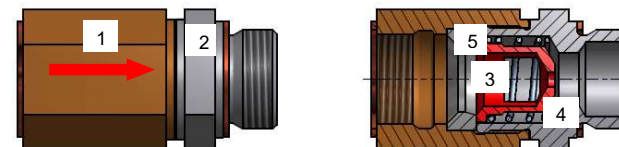

Fig. 1 / Pulsation damping valve (PDV)
9. Structure and mode of Operation / Figures 1, 2,3
The PDV (fig. 1) consists essentially of the:
PDV / Fig. 1 / As a result of a sudden pressure drop on the outlet side, the valve piston closed and the further delivered compressed air passes through the bypass bore in the valve piston. This bore is designed for a pressure loss in the magnitude of the operating pressure. The PDV upstream parts do not realize the pressure drop, they work so to say in a stationary operation. After reaching an equal pressure level (inlet/outlet side of the PDV), the valve opens and the pressure loss is again negligible.